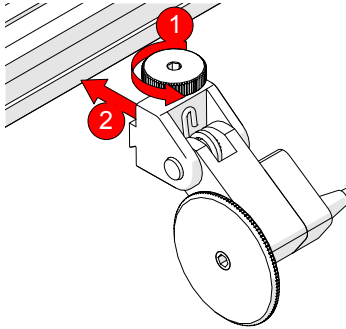

Fig. 36 - Attach to frame bar
1. Loosen the encoder's dovetail jaw and mount it to the frame bar (*Fig. 36*).